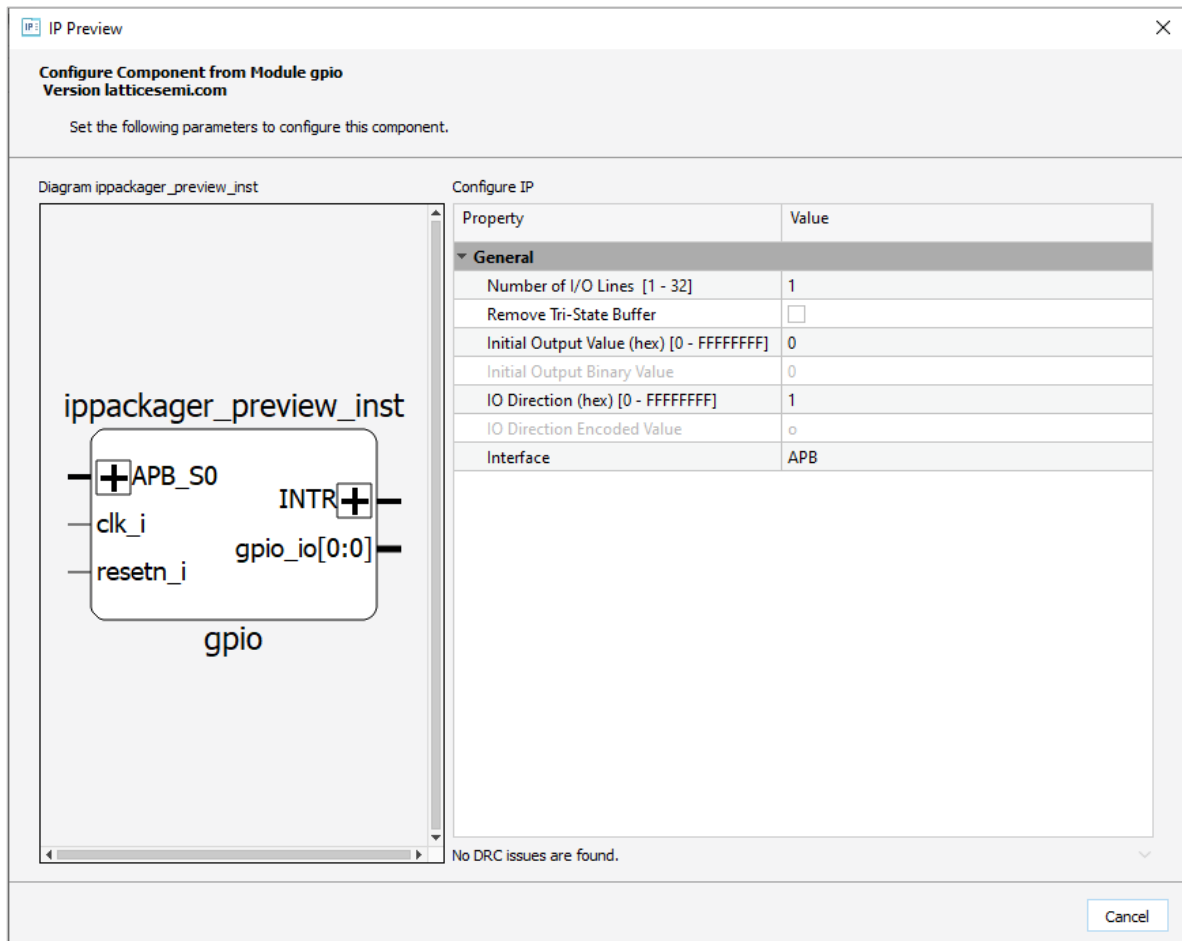
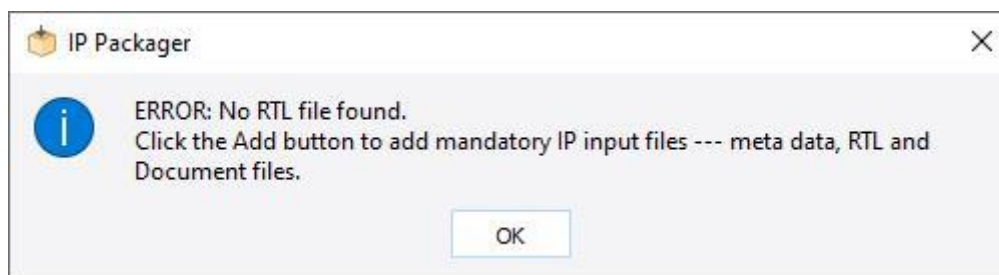

Figure 3.33. IP Preview Shows Configuration for IP Module
Figure 3.34. IP Packager Pops up Error Message
2. IP Preview pops up showing the configuration component for the IP module (Figure 3.33), if the IP project configuration is correct. Otherwise, the IP Packager pops up an error message (Figure 3.34).